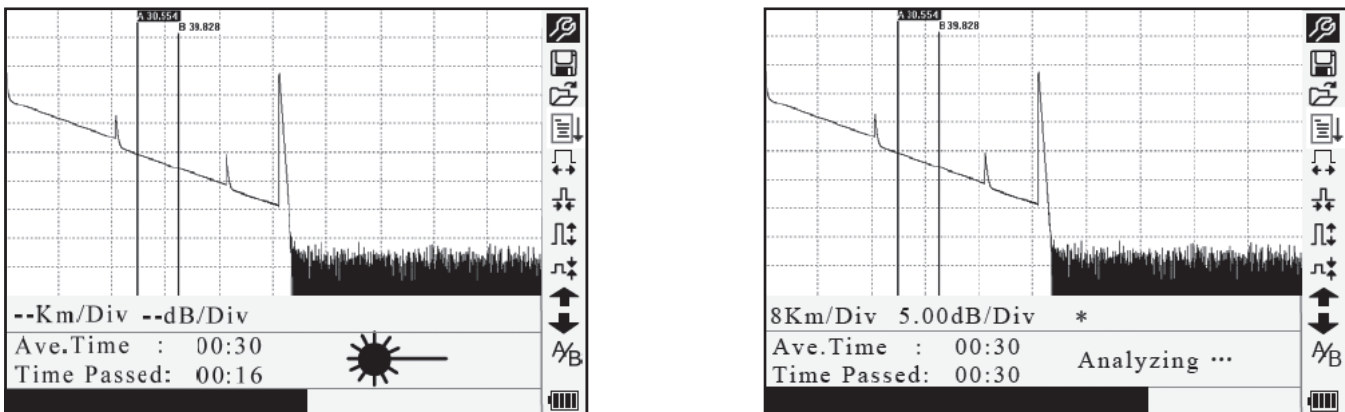

Figure 4-3. Measuring
2. Press **Run/Stop** to start the measurement (Figure 4-3).